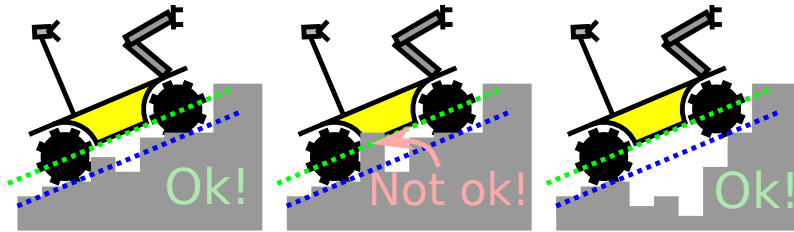

Figure 8: Some collision configuration.
- Check that there are no point within the robot footprint that goes higher than the ground clearance of the robot which is 15cm . See figure 8 for a few example of good and bad configurations.